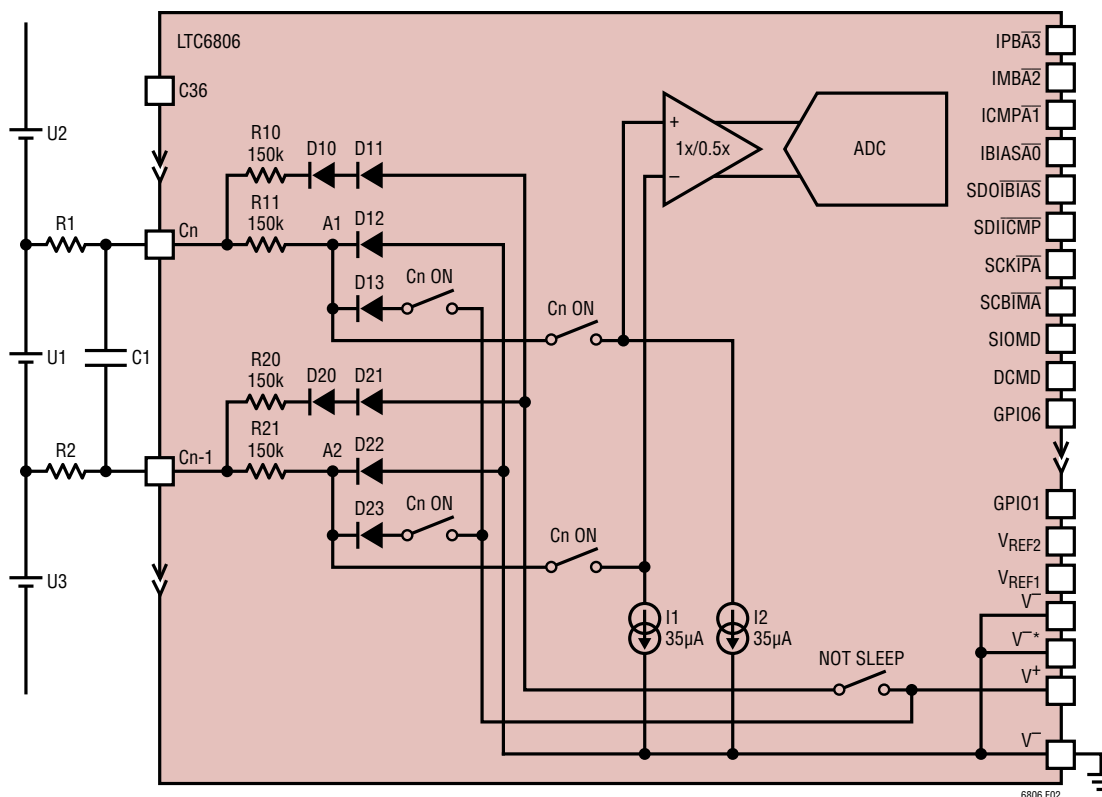

Figure 2. Input Stage Conceptual Block Diagram
The input stage of the LTC6806 consists of a common-gate stage with $150\text{k}\Omega$ series resistance leading to the cell input pins. To accommodate negative common mode measurement, various clamp circuits are implemented at the front end, as shown in Figure 2.
1. When a cell is being measured, all switches in Figure 2 are closed. If the cell common mode voltage is above V^+ , all diodes are reverse biased and the cell input sinks approximately $35\mu\text{A}$ bias current. If the cell common